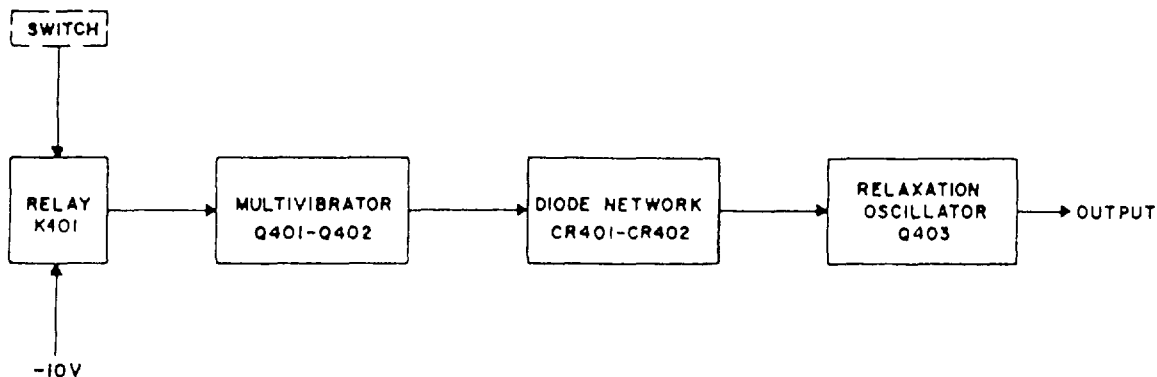

Figure 7-14.—Block diagram of the unassigned A alarm module.
**UNASSIGNED A ALARM.**— The unassigned A alarm contains transistorized oscillator and timer circuits that generate 500-Hz and 1500-Hz sine waves alternating at a rate of 1 1/2 Hz, producing a jump tone. Figure 7-14 is a block diagram of an unassigned A alarm module. Operation of the unassigned A alarm contact maker supplies -10 volts dc through relay K401 to all stages of the circuit.